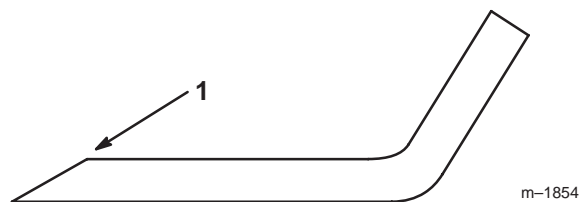

Figure 52
- Use a file to sharpen the cutting edge at both ends of the blade (Fig. 52). Maintain the original angle. The blade retains its balance if the same amount of material is removed from both cutting edges.